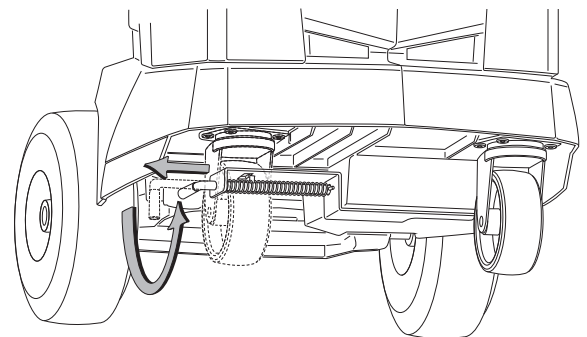

Figure 3
4. Unlock the scale-locking mechanism on underside of unit by pulling the pin and turning it 90°. See Figure 3.